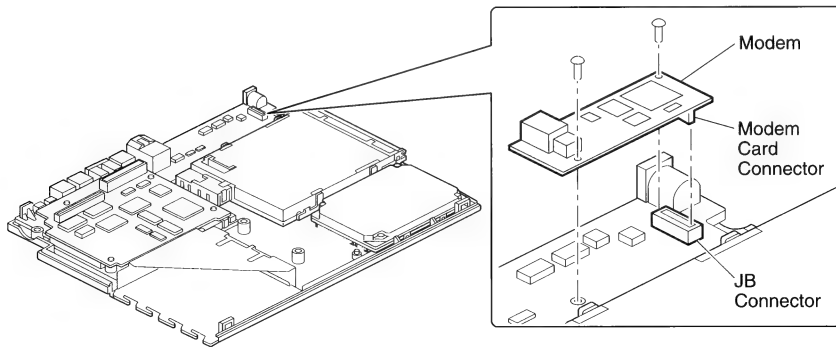

Figure 6 Fax/Data Modem
3. Disconnect the modem from the motherboard (Figure 6).